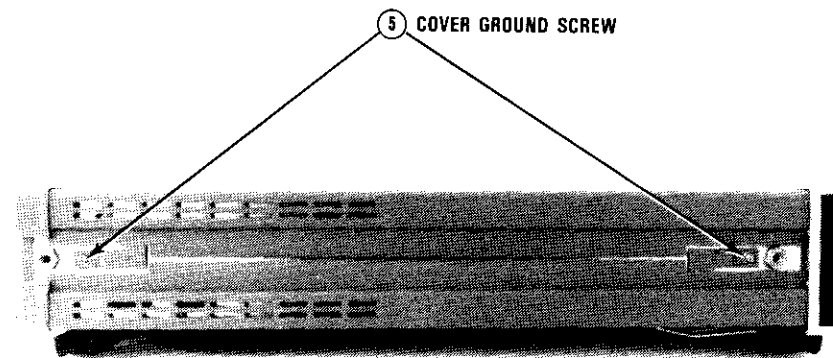

Figure C-3. Covers Ground Screws
7. Use the #TX10 Torx driver to remove the top and bottom covers ground screws, as shown in Figure C-3.
7. Refer to Figure C-3. Turn the instrument so its left side faces you. Use the #TX10 Torx driver to reinstall the top and bottom covers ground screws.